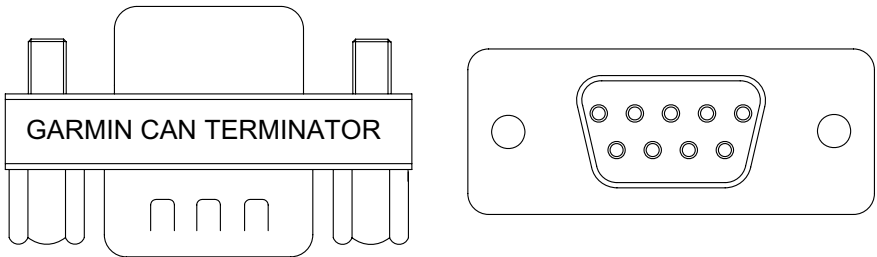
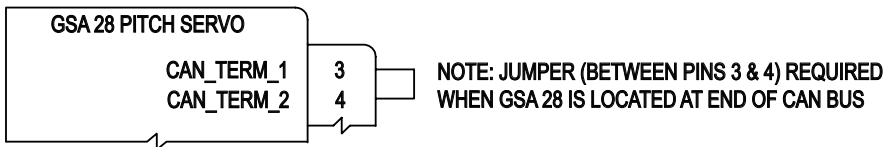

Figure 1-2 CAN Bus Termination (011-02887-00) for the G5 and GAD 29
Figure 1-3 CAN Bus Termination for the GSA 28
The G5 installation kit provides a DB-9 CAN Bus terminator that contains a 120 Ohm resistor connected between pins 1 and 2 (Figure 1-2). The GSA 28 servos contain a 120 Ohm resistor inside the unit that provides the termination when pin 3 is connected (outside of the unit) to pin 4 (Figure 1-3).
- 3) If a G5 or GAD 29 (that was used as a CAN bus termination) is removed, the CAN bus will remain terminated as long as the CAN bus terminator (Figure 1-2) is left connected.
NOTE: The 120 Ω termination resistors described in the preceding paragraphs are “built-in” to the termination methods shown in the following figures. Do not install a separate “discrete” 120 Ω resistor to terminate the CAN bus in addition to the termination methods shown in Figure 1-2 and Figure 1-3.